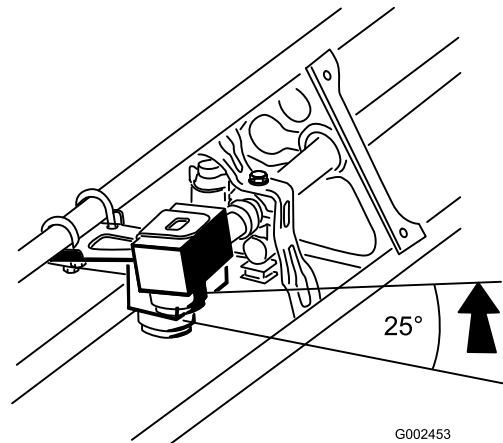

Figure 3
4. Rotate the sensor and protection tube up so that it is approximately 25 degrees above parallel with the ground, then tighten all the locknuts on the U-bolts to secure the sensor and projection tube (Figure 3). The protection tube should remain above the sensor when adjustment is complete.